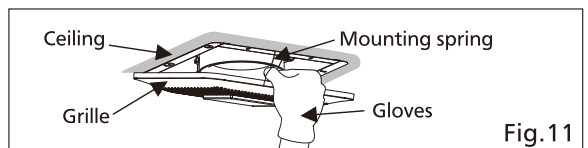

Fig.11
14. Insert the other mounting spring into the slot as shown and mount grille to fan body. (Fig.11)